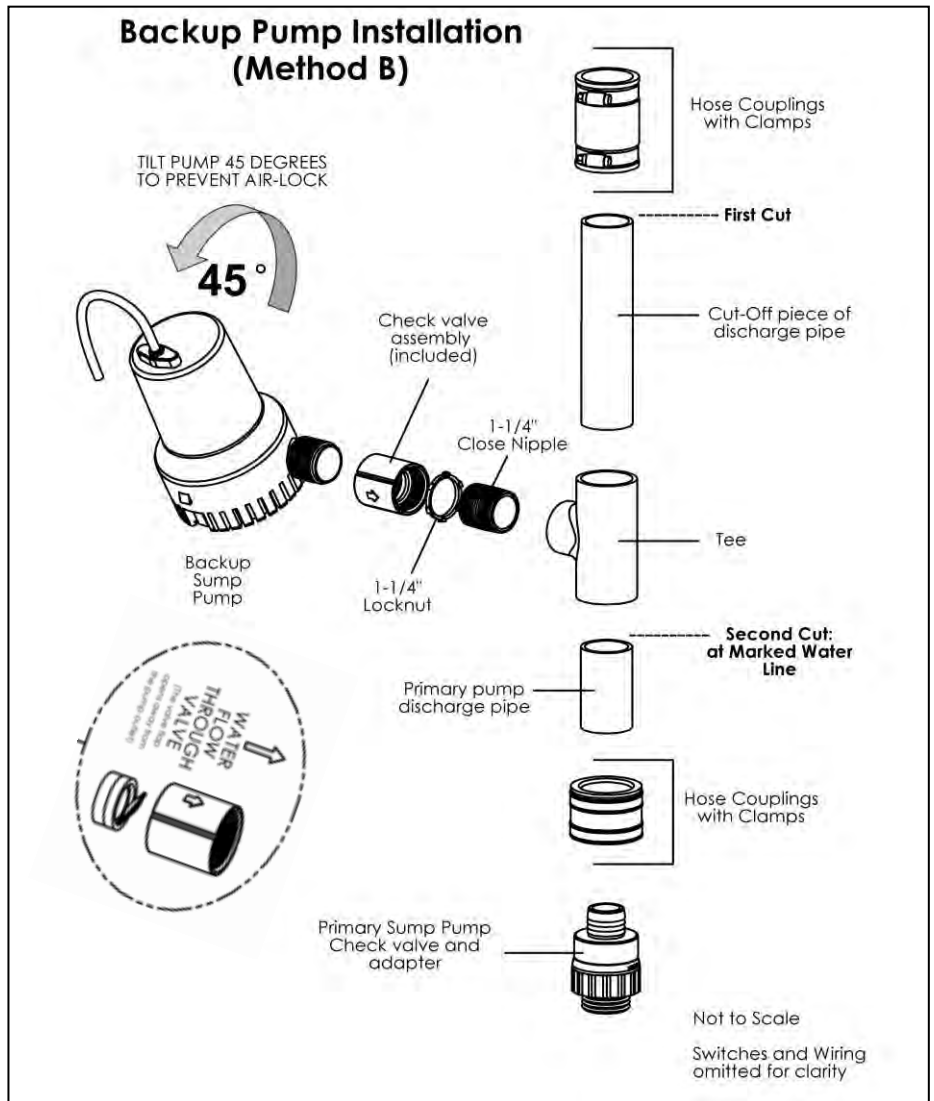

Figure 5 – Method B installation diagram
Method B suggests installing the back-up pump above the primary sump pump. See Figure 5. The minimum required sump basin diameter for this type of installation is 13.5" at the bottom of the pit, and the minimum recommended depth of the basin is 22".
3. Thread the check valve onto the backup pump discharge ensuring that the valve housing and inner valve flap are oriented correctly. See Figure 5 detail.